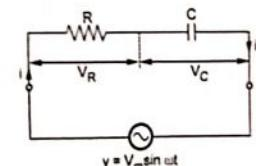

Fig. 3.6.1 Series R-C circuit
- Consider a circuit consisting of pure resistance R-ohms and connected in series with a pure capacitor of C-farads as shown in the Fig. 3.6.1.